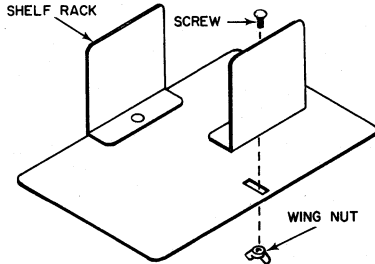

Figure 4
4. Install the shelf racks on the lower shelf, using the square-shouldered screws and wing nuts (Figure 4).